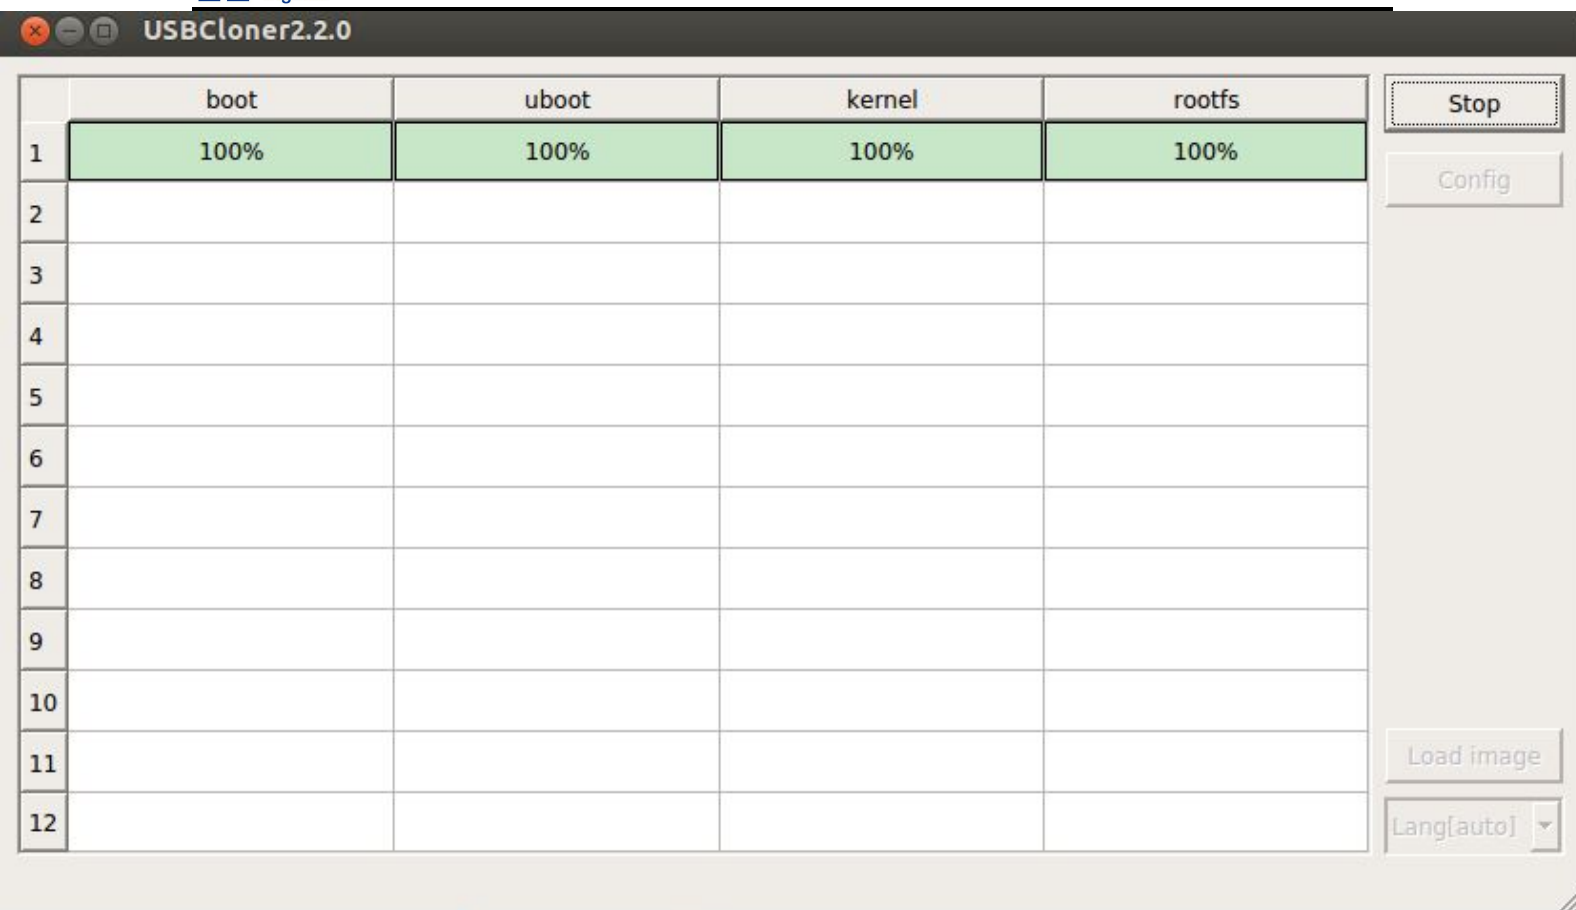

Figure 5-5 Burn completed renderings
- In the process of burning all the progress bar reaches 100% buffer and complete as shown in figure 5-5.